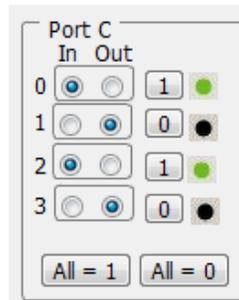

Figure 11: Setting the input pins as input/output individually
- The screen shot of the oscilloscope would be as shown in Figure 11.